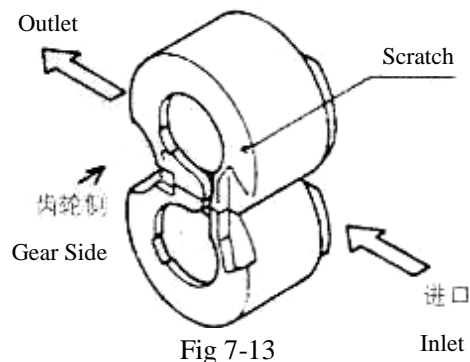
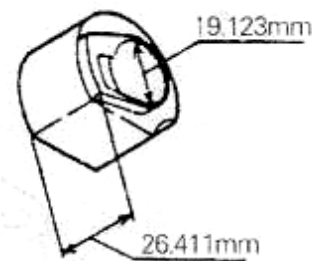

Fig 7-13
Fig 7-14
(2) Examination of Bearing (Fig 7-13 and Fig 7-14)
Inner Diameter—19.123mm (Fig 7-14)